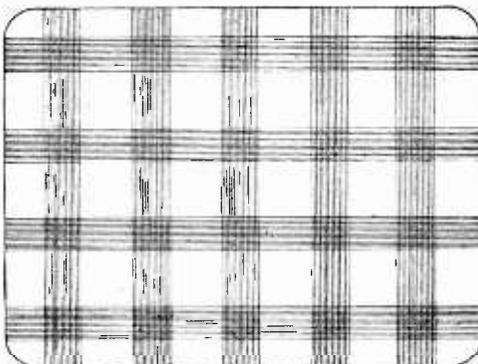
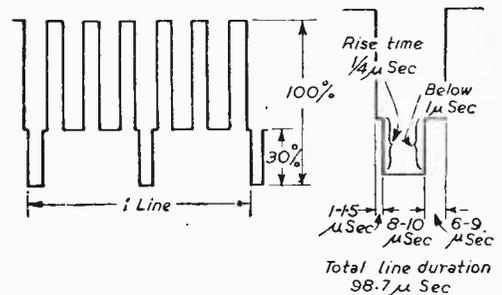

Fig. 4.—The suggested test pattern.
Fig. 5 (left).—One line of the suggested test pattern waveform. Fig. 6 (right).—Porch and line sync pulse details.
4. For a simple pattern such as that shown in Fig. 4 the line intelligence generator can be locked to the line sync circuit and can consist of a simple square-wave or pulse generator giving, say, five visible vertical bars. An odd number is desirable in order that there may be a central black bar over the unwanted line sync pulse in the centre of the line scan, as in Fig. 5. For five vertical lines the generator must run at 60,750 c.p.s. to give six lines, one of which is lost in the flyback. The width and timing of the generator pulses, if the pattern is to be truly standard, must be as shown in Fig. 6 where the details of the front and back porches are shown.
5. The frame intelligence, which can consist of a number of horizontal bars, is most conveniently made a switching waveform which will cut off the line intelligence at regular intervals. One of these intervals must be that during which the frame sync pulses and suppressed lines only are to be transmitted, once in each half-frame. In this method of operation it is convenient to make a slight departure from the BBC waveform, the line intelligence being suppressed for 13½ lines rather than 14 lines. At a basic switching frequency of 250 c.p.s. it is then possible to interrupt the frame by five black bars of which four are visible, as in Fig. 4. The fifth serves as a frame sync suppression and blanking bar. The black bars must each be 13½ lines in width with 27 line spacings between them, giving a final correctly interlaced raster of two half-frames of 202½ lines each.
The dipole may, of course, be bent to an alternative shape, and again it affects bandwidth as well as directional properties. A common form of aerial which gives very good results consists of a dipole bent into a circle, and again the effect may be tried of bending the free ends round until they are about three or four inches apart, and of bending the rod or tube round and taking the lead from the adjacent ends. Instead of bending the two halves round to circular form they may be simply bent away from the vertical to form a sharp "V," or continued to an angle of 90 deg. to form the well-known "X" aerial. Both the latter arrangements may be provided with directors or reflectors of a similar angle, and for the horizontal transmissions some interesting arrays may be made up. For vertical transmissions the addition of elements means that cross bars have to be fitted, and the complete arrangement then becomes very heavy and unwieldy. For a horizontal array of the same type, however, a much easier assembly is possible, and a form of aerial which is popular in the U.S.A. is shown in Fig. 5. This is based on some of the U.S.W. aerial arrays used during the war and consists of a dipole fitted in front of a 90 deg. "solid" reflector. In Service arrays the reflector is usually made from wire netting or even solid sheet metal,
Figs. 5 and 6.—A folded dipole with 90 deg. reflector, and a stacked array of two folded dipoles with reflectors.